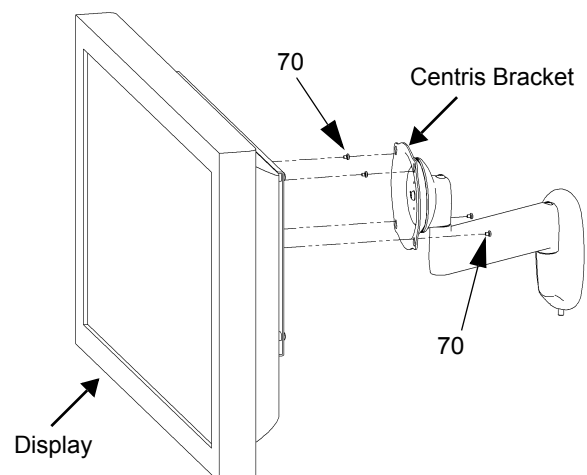

Figure 10: Attach Display to Centris Bracket
1. Start two M4 x 8mm Phillips pan head screws (70) into the top two mounting holes of the previously attached interface bracket. (see Figure 10)
3. Install the remaining two M4 x 8mm Phillips pan head screws (70) into the bottom mounting holes of the display.
4. Secure the display to the mount (Centris bracket) by tightening all four M4 x 8mm Phillips pan head screws (70). (see Figure 10)